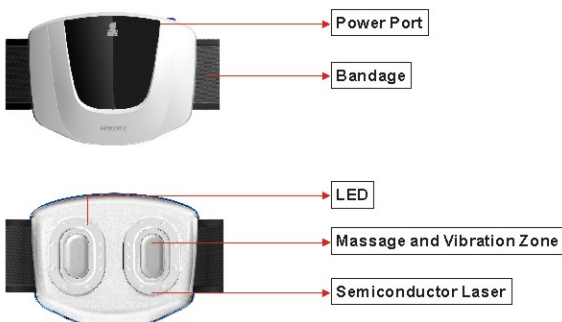

Fig1. Mainframe of WaistCare Laser Massager
- (1) WaistCare Laser Massager Mainframe (see Fig 1)